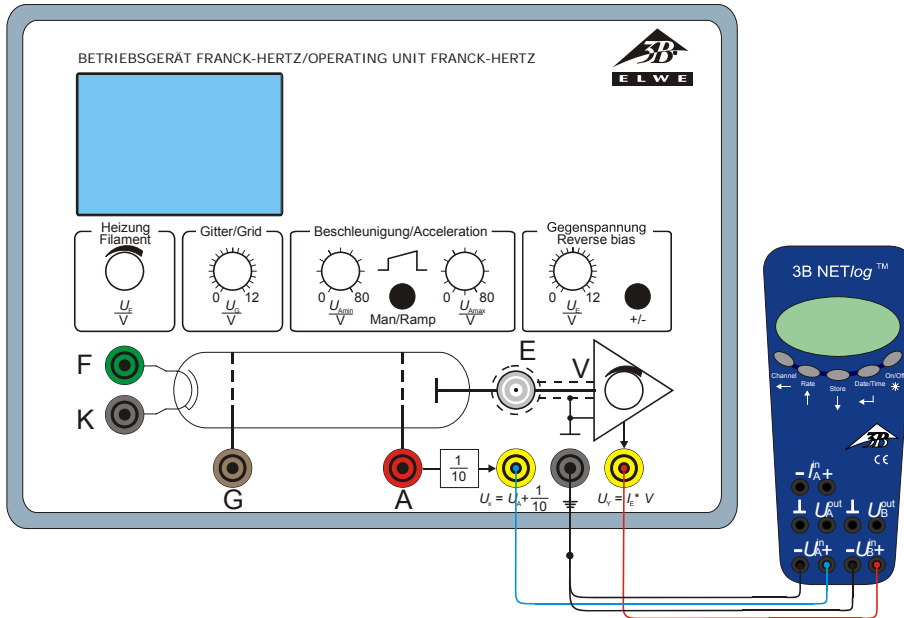

Fig. 6 Connection of 3B NETlog™ to the control unit for the Franck-Hertz experiment
- Connect the 3B NET/og™ unit to the control unit for the Franck-Hertz experiment (see Fig. 6). Connect the  $U_x$  output of the control unit to input A of the 3B NET/og™ unit and output  $U_y$  to input B.